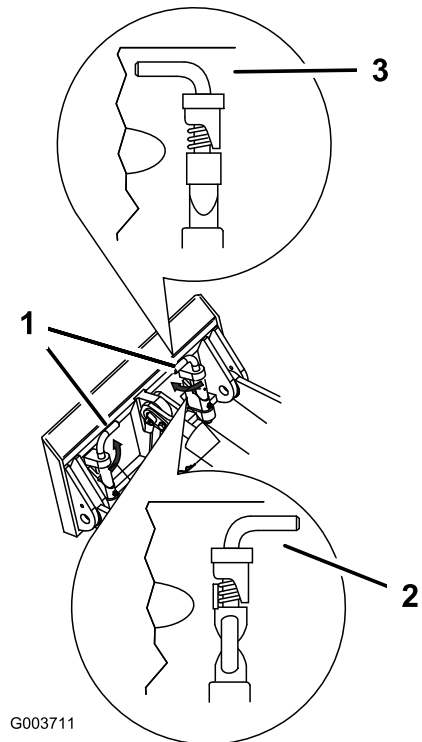

Figure 20
7. Engage the quick attach pins, ensuring that they are fully seated in the mount plate (Figure 20).